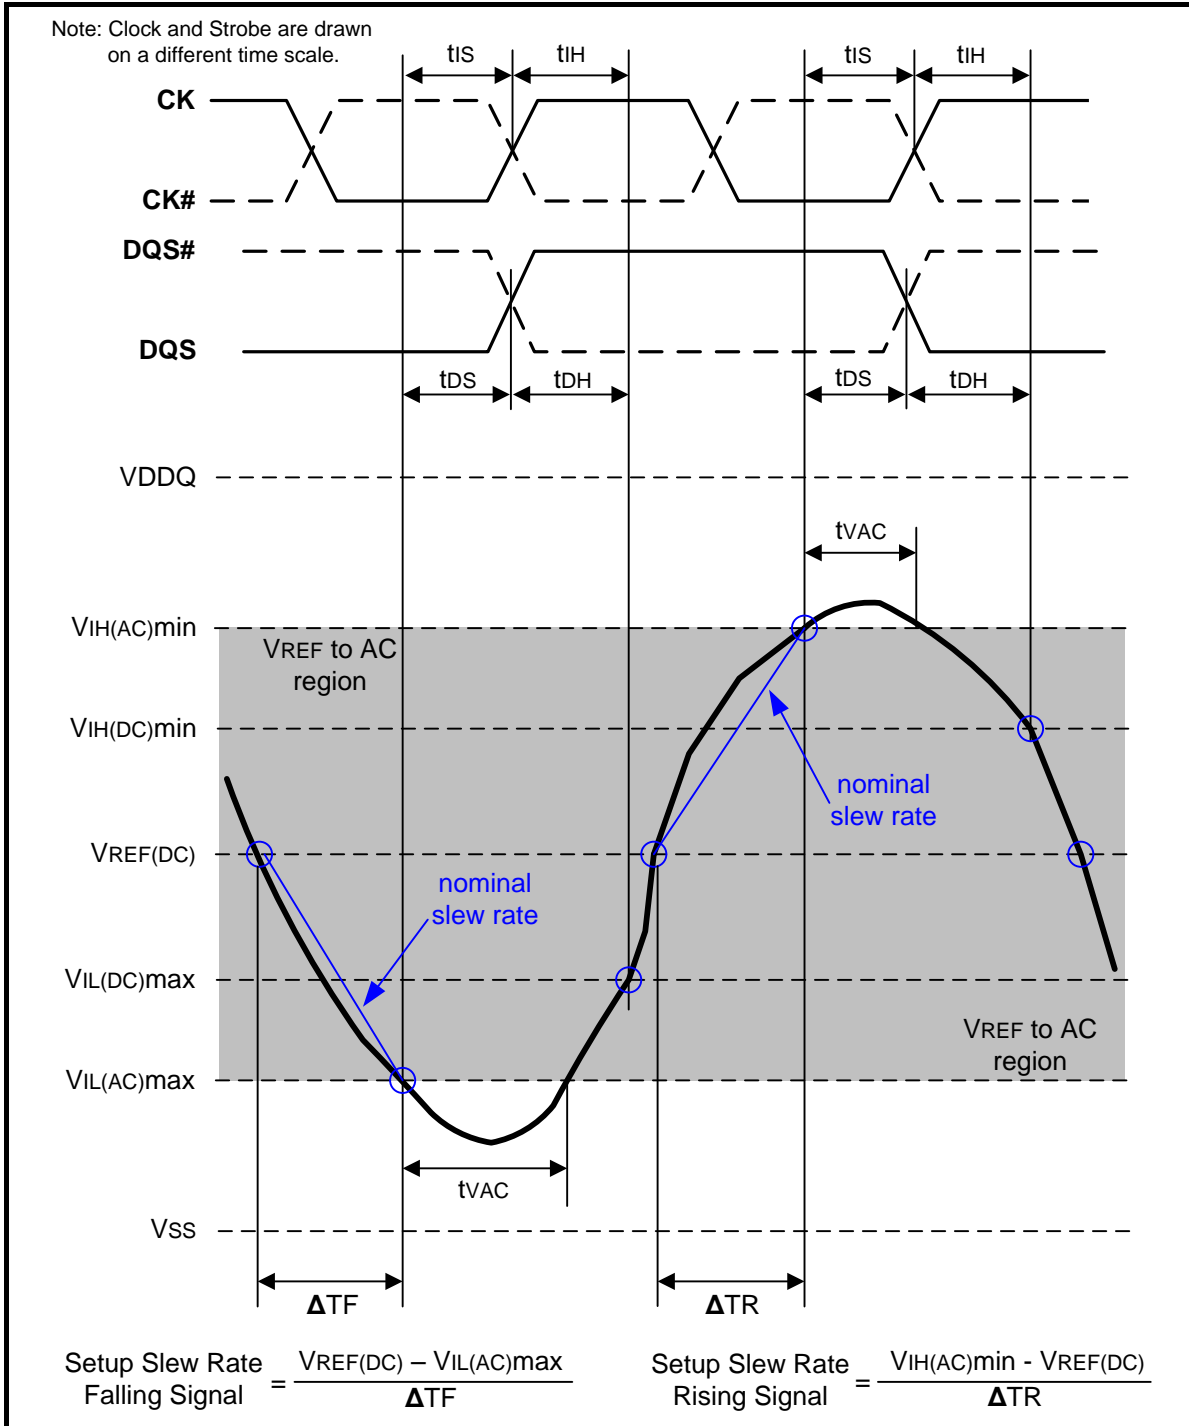
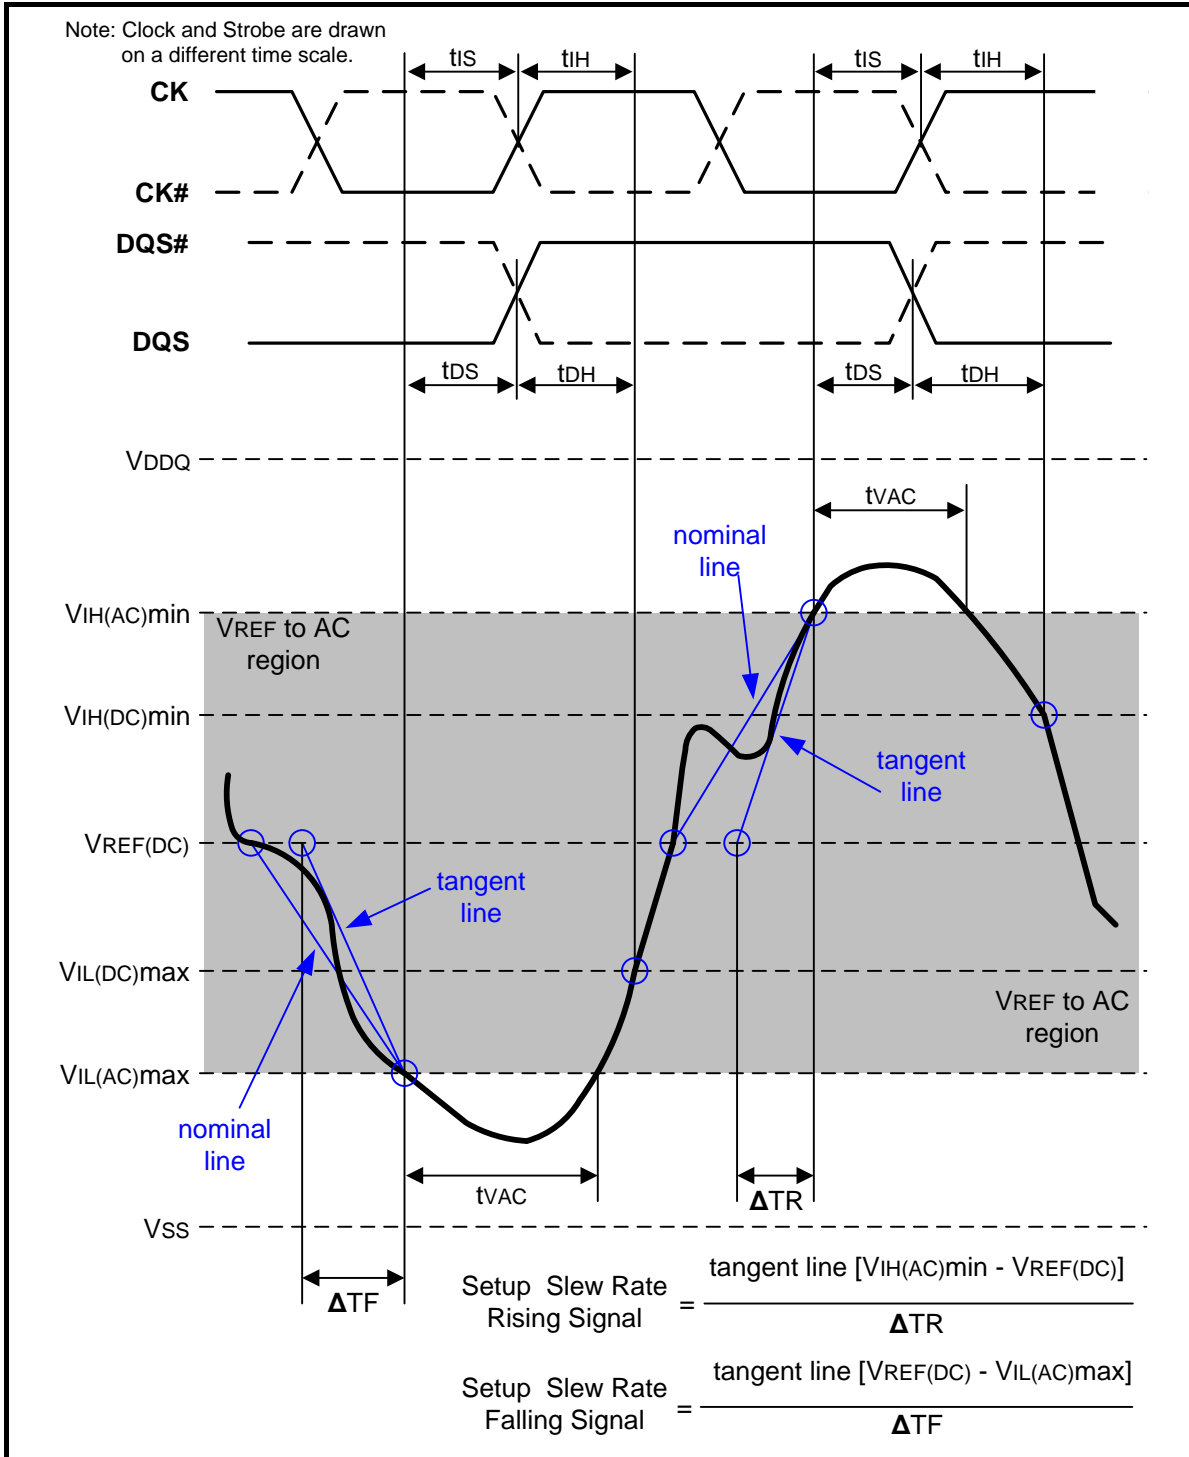

Figure 107 – Illustration of nominal slew rate and tvac for setup time tds (for DQ with respect to strobe) and tis (for ADD/CMD with respect to clock)
Figure 109 – Illustration of tangent line for setup time  $t_{DS}$  (for DQ with respect to strobe) and  $t_{IS}$  (for ADD/CMD with respect to clock)
Setup ( $t_{IS}$ ) nominal slew rate for a rising signal is defined as the slew rate between the last crossing of  $V_{REF(DC)}$  and the first crossing of  $V_{IH(AC)min}$ . Setup ( $t_{IS}$ ) nominal slew rate for a falling signal is defined as the slew rate between the last crossing of  $V_{REF(DC)}$  and the first crossing of  $V_{IL(AC)max}$ . If the actual signal is always earlier than the nominal slew rate line between shaded 'VREF(DC) to AC region', use nominal slew rate for derating value (see Figure 107). If the actual signal is later than the nominal slew rate line anywhere between shaded 'VREF(DC) to AC region', the slew rate of a tangent line to the actual signal from the AC level to  $V_{REF(DC)}$  level is used for derating value (see Figure 109).
Setup (tDS) nominal slew rate for a rising signal is defined as the slew rate between the last crossing of VREF(DC) and the first crossing of VIH(AC)min. Setup (tDS) nominal slew rate for a falling signal is defined as the slew rate between the last crossing of VREF(DC) and the first crossing of VIL(AC)max (see Figure 107). If the actual signal is always earlier than the nominal slew rate line between shaded 'VREF(DC) to AC region', use nominal slew rate for derating value. If the actual signal is later than the nominal slew rate line anywhere between shaded 'VREF(DC) to AC region', the slew rate of a tangent line to the actual signal from the AC level to VREF(DC) level is used for derating value (see Figure 109).